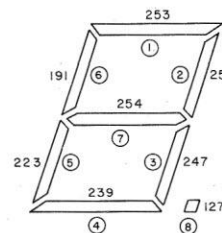

Fig. 6. LED segments and values.
Fig. 6 identifies the decimal value required to turn on each segment in an LED if POKEd to the correct address in the CNTRL 2,1 mode. These values can be placed in an array (S(1)=253, S(2)=251, S(3)=247...) and combined by the AND function to form any desired segment combination. For example, the letter "J" could be displayed by J = S(2)AND S(3)AND S(4)AND S(5) followed by POKE 8203,J.